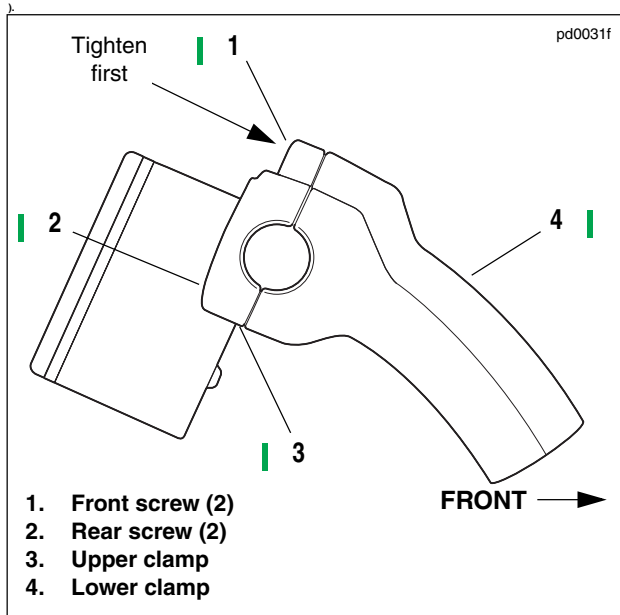

Figure 1-11. XL 1200C, XL 883C Custom Models
1. See Figure 1-11. Loosen four screws (1, 2) of handlebar upper clamp (3).